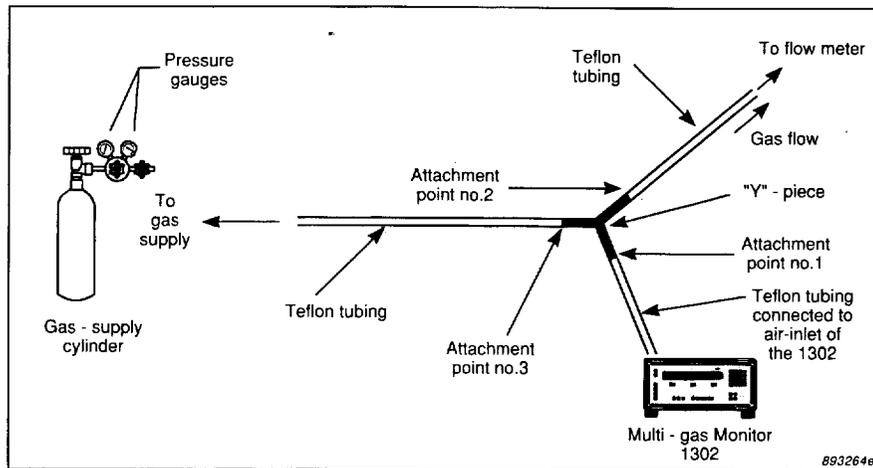

Fig. 2.5. General equipment required for a calibration task
The general equipment required to perform the calibration is shown in Fig. 2.5. Three different lengths of teflon tubing are connected to a "Y"-piece. The tube attached to point 1 is connected to the air-inlet of the 1302; the tube attached to point 2 is attached to a gas flow meter or similar apparatus; and the tube attached to point 3 is attached to the cylinder of gas which is to be used during calibration.
- (a) Connect the free-end of the length of tubing attached to the air-inlet of the 1302 to one of the branches of the "Y"-piece (see attachment point no. 1 in Fig. 2.5).
- (b) Cut off another 1 m length of teflon tubing and connect one of its ends to attachment point no. 2 of the "Y"-piece (see Fig. 2.5) and its other end to a flow-meter.
Connect a 1 m length of tubing to attachment point no. 3 of the "Y"-piece (see Fig. 2.5).